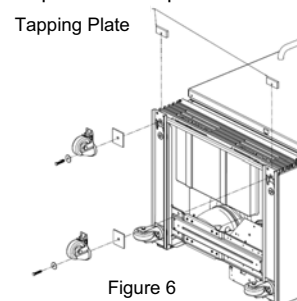

Figure 6
- Place the tapping plate between the front bottom of the cabinet and caster rails as depicted in Figure 6. Make sure the tapped holes in the tapping plate align with the center slot in the caster rail.